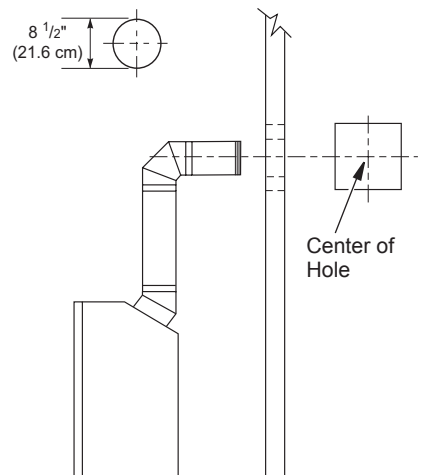
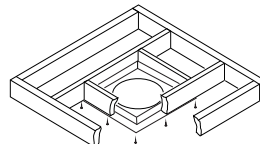

Figure 9 - Vent Opening Requirements
Figure 20 - Installing Firestop
5. Carefully determine the location where the vent pipe assembly will penetrate the outside wall. The center of the hole should line up with the center-line of the horizontal vent pipe. Mark the wall for a 10 3/4" x 10 3/4" square hole. Cut and frame the square hole in the exterior wall where the vent will be terminated. If the wall being penetrated is constructed of noncombustible material, such as masonry block or concrete, a 8 1/2" hole with zero clearance is acceptable (see Figure 9).
1. Cut a 10 3/4" square hole in the ceiling using the locating hole as a center point. The opening should be framed to 10 3/4" x 10 3/4" inside dimensions, as shown in Figure 9 on page 10 using framing lumber the same size as the ceiling joists. If the area above the ceiling is an insulated ceiling or an attic, nail firestop from the top side. This prevents loose insulation from falling into the required clearance space. If the area above the ceiling is a living space, install firestop below the framed hole. The firestop should be installed with no less than three nails per side (see Figure 20).
3. Cut a hole in the roof using the locating hole as a center point. (Cover any exposed open vent pipes before cutting hole in roof.) The 10 3/4" x 10 3/4" hole must be measured on the horizontal; actual length may be larger depending on the pitch of the roof. There must be a 1" clearance from the vent pipe to combustible materials. Frame the opening as shown in Figure 9, page 10.